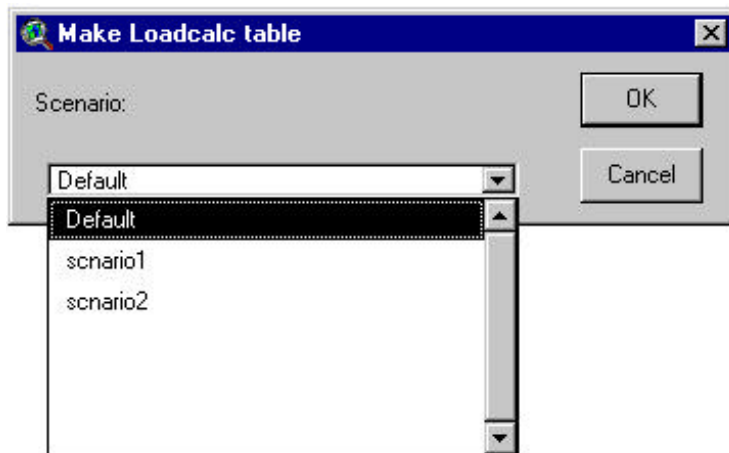

Figure 13.47
2. If a calibration scenario has been created (see previous section), a prompt box is displayed (Figure 13.47).